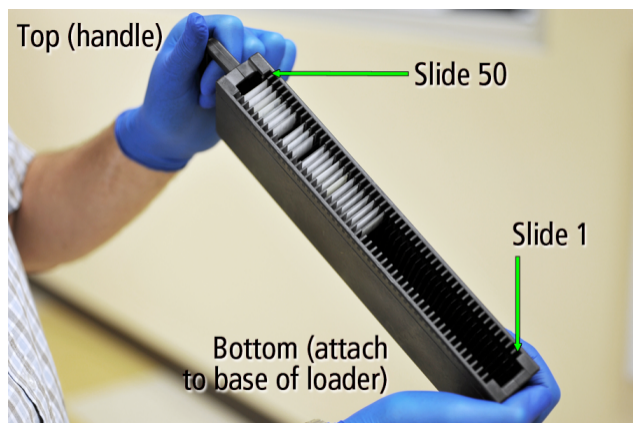

Figure 8. Slides loaded into a cassette
2. You may load up to 50 slides in each cassette. Load slides into cassettes so that the labels are facing upward and outward. Slides can be loaded into any position in the cassette; they do not have to be in contiguous locations (see Figure 8).